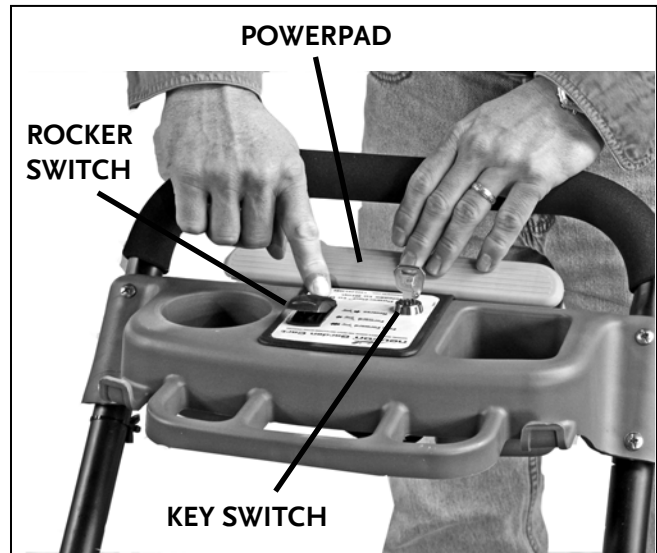

Figure 13. Moving backwards, the Rocker Switch held in reverse position.
1. Press and **HOLD** the Rocker Switch to reverse, it's the backward switch position (**Figure 13**).